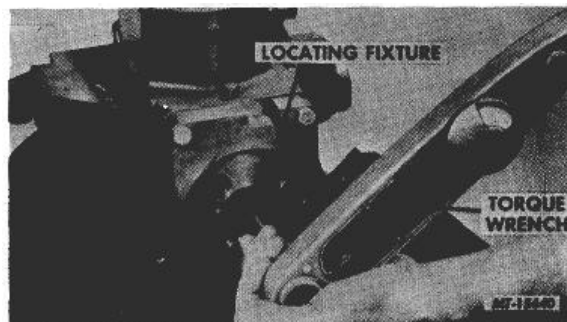

Fig. 177 Tightening Injection Pump Drive Flange Nut
- c. Place drive flange locating fixture SE-2323 over tangs and index dowel pin in tool with aligning pin hole in rear of engine front cover (Fig. 177).
- b. To verify correct alignment of drive flange tangs, install drive flange locating fixture SE-2323 on engine (Fig. 177).